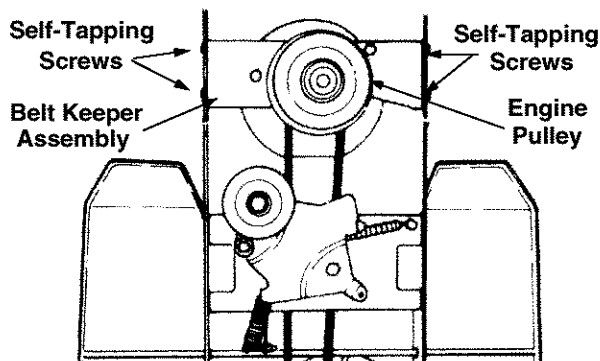

Figure 31
- Remove the four self-tapping screws which hold the belt keeper assembly to the frame at the engine pulley. Push the belt keeper assembly forward and out of the way. See Figure 31.